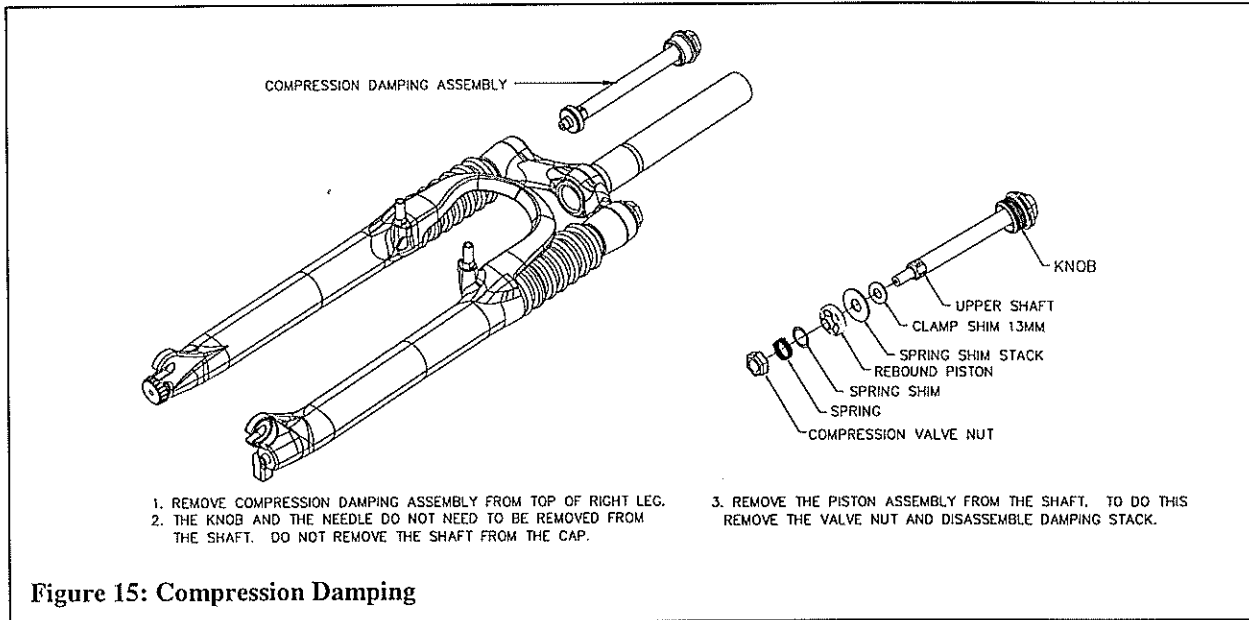

Figure 15: Compression Damping
COMPRESSION DAMPER DISASSEMBLY FIGURE 15:
1. Assemble shim stack and spacers onto the piston seat in exact order that they were removed. Refer to Figure 15. Apply a small amount of blue Loc-tite to piston seat threads. Install and hand tighten valve nut. Be sure large blow off washer will slide over piston spacer and compress the small spring. Torque valve nut to 12 in-lb. (1.3 N-m) max, over tightening will damage the piston.